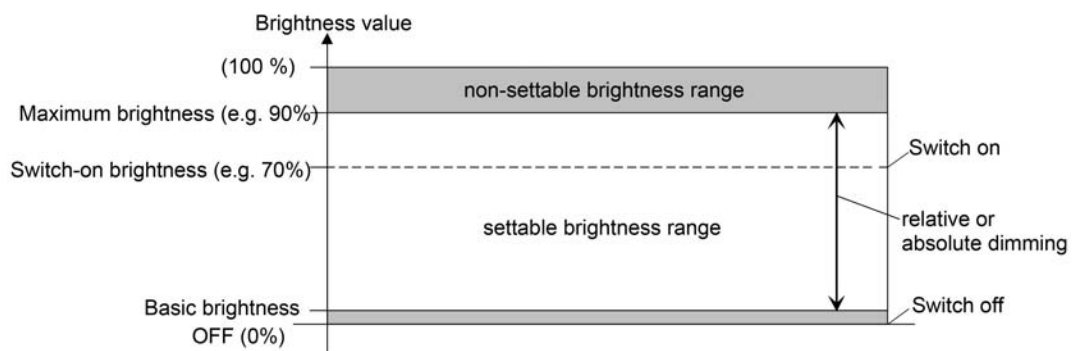

Figure 11: Example of a brightness range with basic brightness
- Definition of the lower brightness limit with basic brightness (Figure 11):